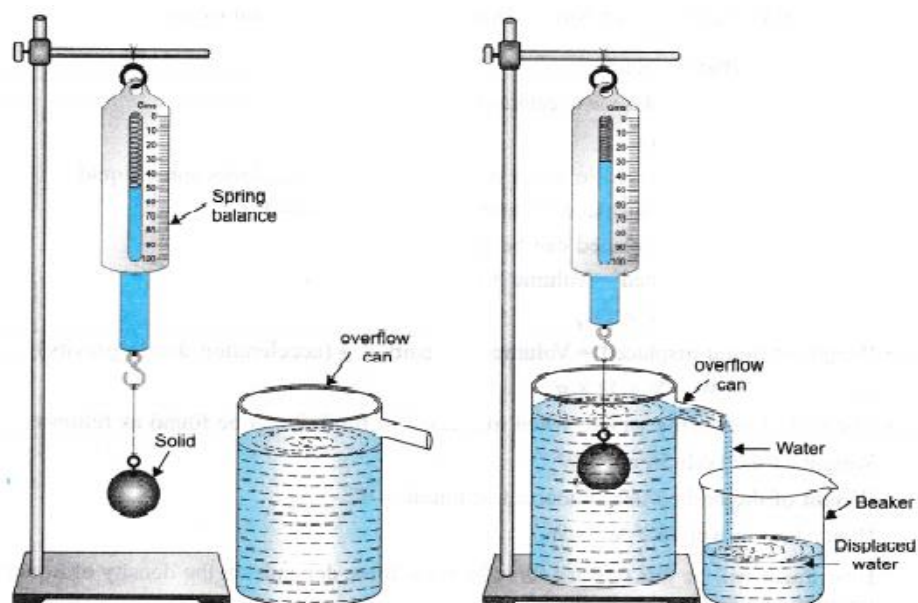

Figure 14
- (a) Set up the apparatus as shown in Figure 14.